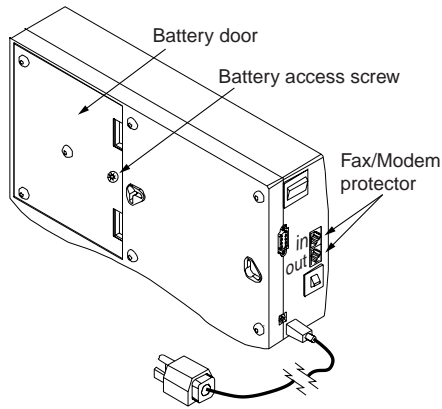

Figure 4
4. Remove screw and follow operations described in **Figure 4** to open the door and slide out the battery.